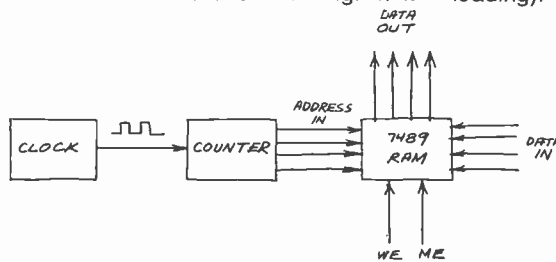

Fig. 3. Block diagram of automated RAM demonstrator.
**Automated RAM Demonstrator.** A much better way to learn about RAM's as well as some microprocessor basics is to connect a binary counter to the address inputs of the 7489. Figure 3 is a block diagram that shows how everything goes together.